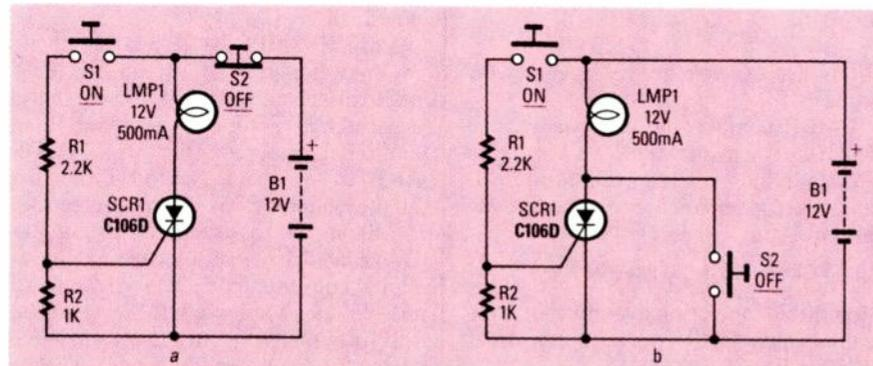

FIG. 2—PRACTICAL SCR CONTROL CIRCUITS are shown in (a) and (b). Both circuits have separate on and off switches.
**FIG. 2—MEASURE INPUT OFFSET VOLTAGE** by grounding the non-inverting input. With a bipolar power supply, the inverting input is held at virtual ground by the op-amp's output.
A test circuit for measuring  $V_{OS}$  is shown in Fig. 2. Looking at the circuit, however, we see that only one input is directly tied to ground; the other is at a *virtual ground*. That concept is important in understanding how op-amps work. One of the basic properties of an ideal op-amp is that its differential input voltage is zero. Hence, when the non-inverting input is tied low, the sum of the voltages at the inverting input must also be zero, or at ground. That sum consists of the input signal and the feedback.
Returning to Fig. 2, in that configuration, the op-amp attempts to balance its inputs by forcing the inverting input voltage high or low to compensate for any voltage difference between the two inputs. The result ( $V_{OS}$ ) can be read directly with a voltmeter.
SCR's are used in both AC and DC power-control circuits; let's look first at some basic DC circuits. Two ways of using the SCR as a pushbutton-controlled power switch are shown in Fig. 2. In both circuits, the SCR (and thereby the lamp) can be latched on by momentarily closing S1, thereby feeding gate drive to the SCR via R1. In both circuits the gate is tied to
Of course, after the SCR turns on, it can be turned off again only by momentarily reducing anode current below the device's  $I_H$  value. In Fig. 2-a the SCR is turned off by momentarily opening S2; in Fig. 2-b that is done by using S2 to short the anode and cathode terminals of the SCR momentarily.